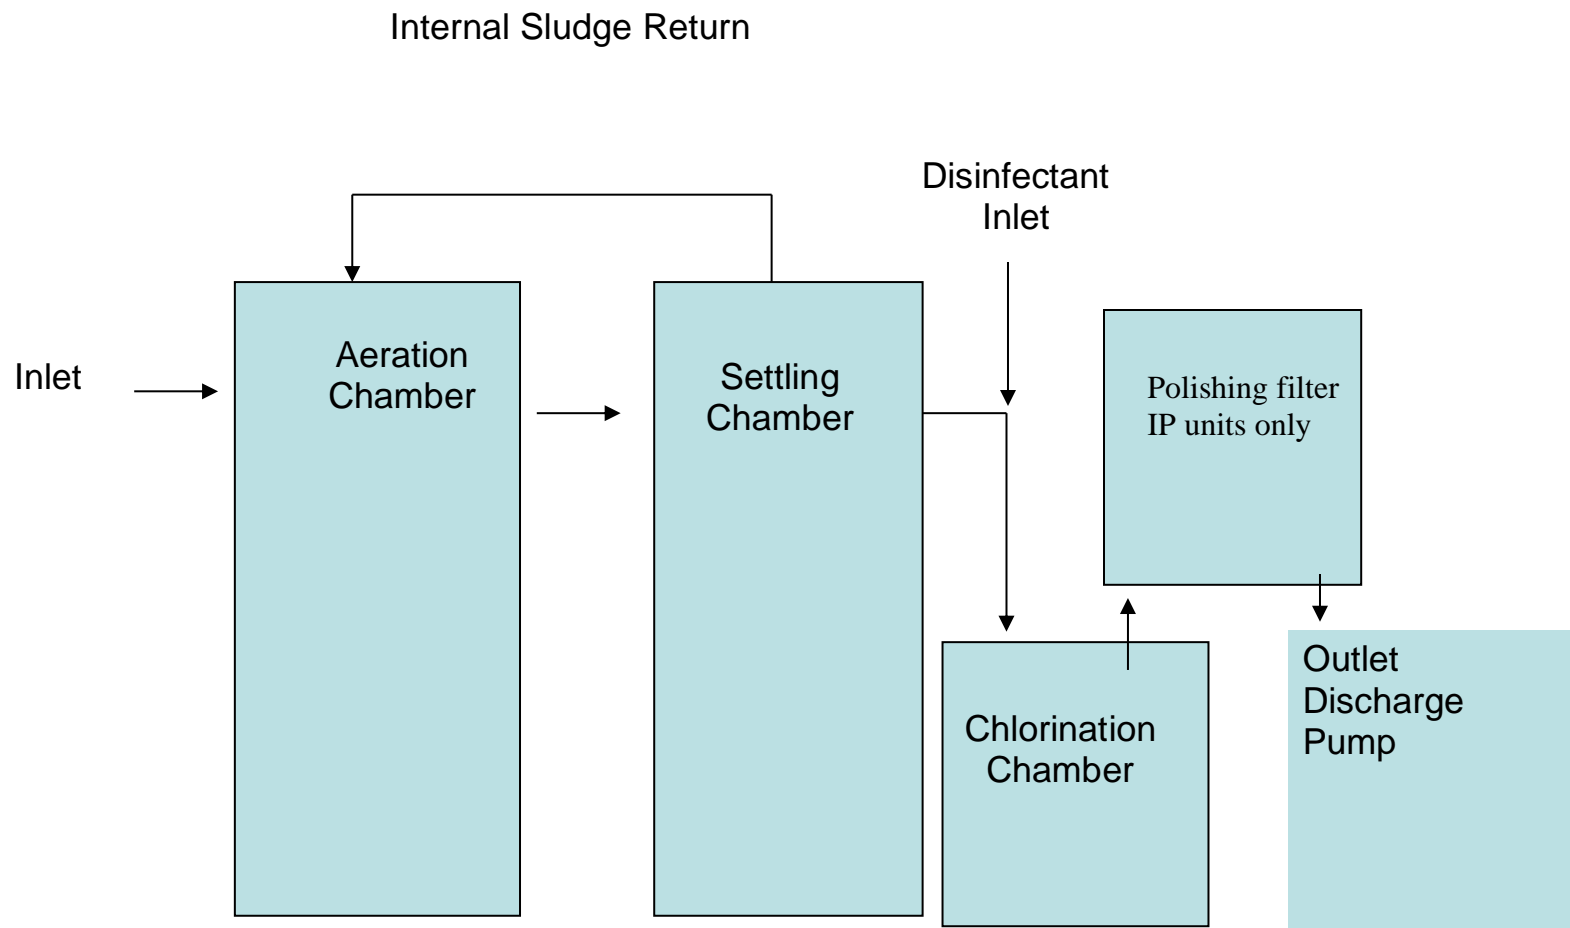

Figure 2
1. After a proper installation has been accomplished and all piping connections have been made, (the inlet, outlet, and vent lines are properly connected, and system has been filled with water) you may now proceed to step 2 of this Start-Up Procedure. Refer to **Figure 2** for locations of all external connections.